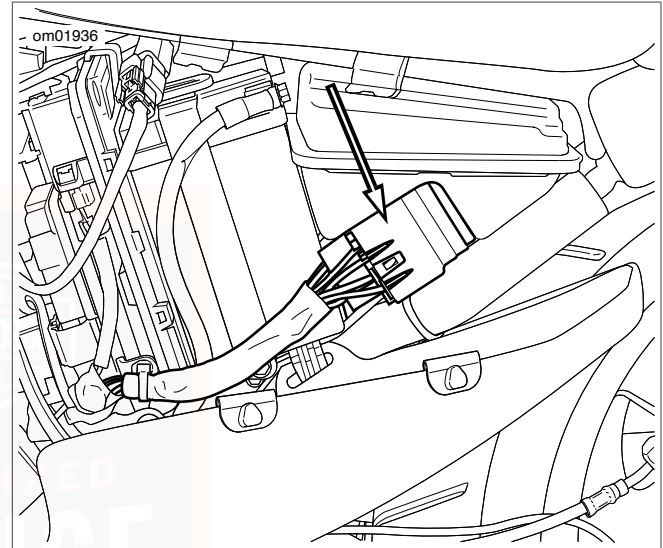

Figure 76. Fuse Block
3. See Figure 76. Pull the fuse block from the oil tank.